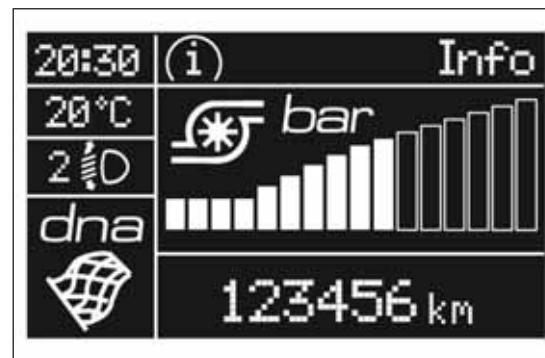

fig. 73
- ☐ **Dynamic mode** fig. 73 (display image available for versions/markets, where provided)